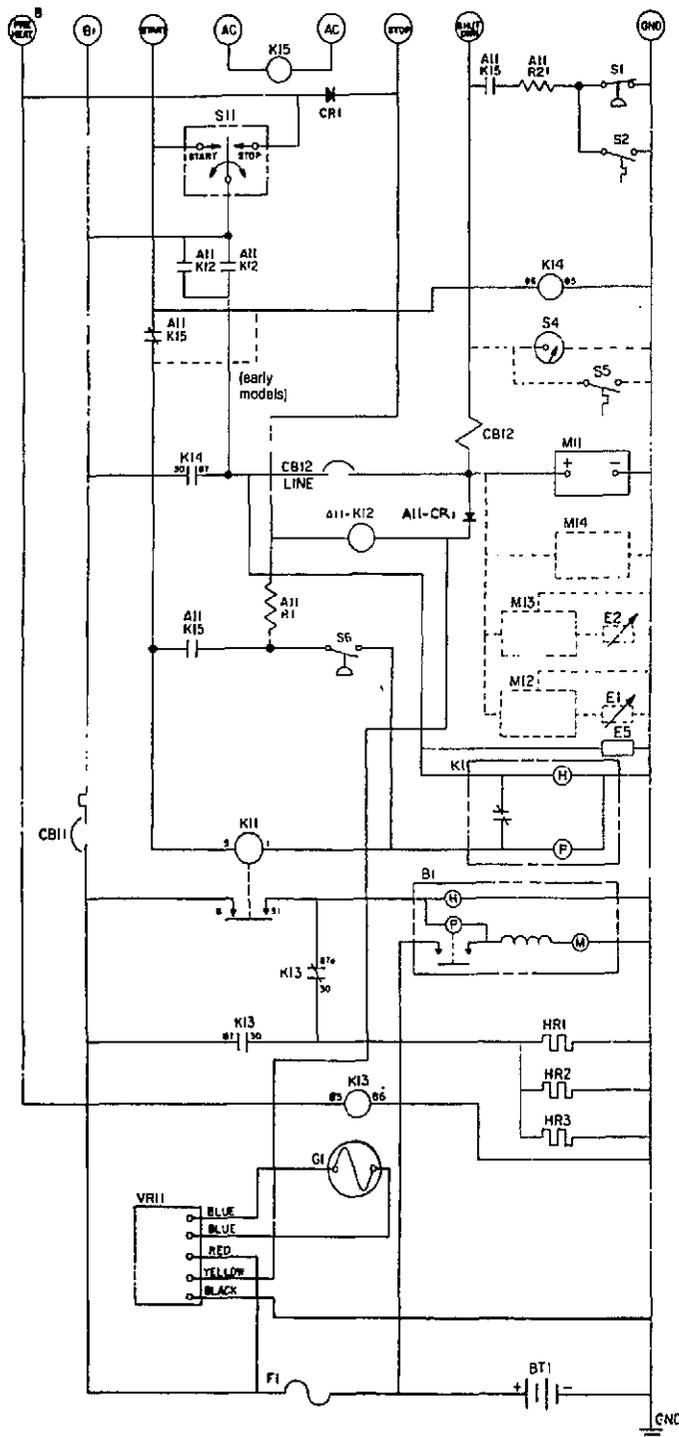

FIGURE 2-4. MDKC/MDKD CONTROL SCHEMATIC
The following section covers the control operation. The schematic diagram shown in Figure 2-4 can be used to help follow the circuit description. Always refer to the specific wiring diagram that corresponds to the model and specification number of the generator set when troubleshooting. Relay contact references normally open (NO) and normally closed (NC) refer to the position of the contacts with the unit at rest (not energized).
Figure 2-4 shows a typical schematic for the circuits described in the following Starting, Start-Disconnect, and Stopping sequences. Relay contact references normally open (NO) and normally closed (NC) refer to position of contacts with the unit at rest (not energized).
Emergency Shutdown: Fault breaker CB12 opens to stop the engine any time a fault sensor closes the circuit to ground. The fault sensors, shown in Figure 2-4, are: